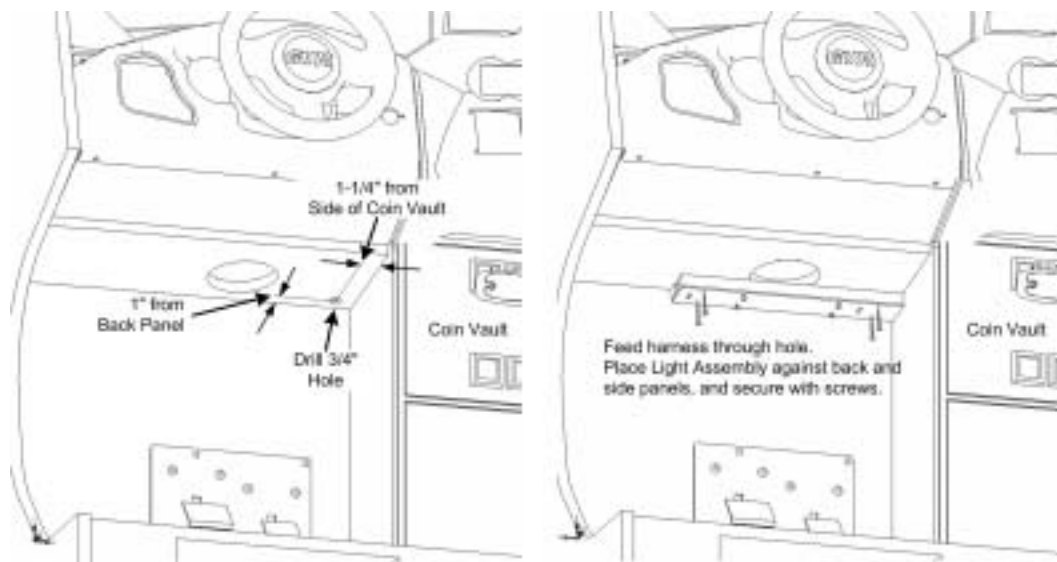

Figure 20. Installing the Light Kit
The cold-cathode light assembly is installed under the control panel as shown in Figure 20.
1. Refer to Figure 20, and measure and mark a location for the harness hole, 1" from the rear panel (where the pedals are mounted) and 1-1/4" from the wall of the coin vault.
4. Tighten the four (4) screws that are partially installed in the light assembly to secure it to the cabinet.